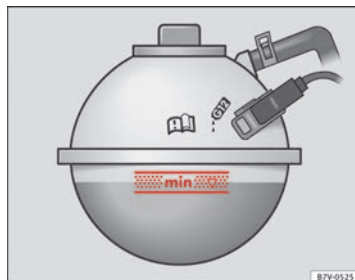

Fig. 173 In the engine compartment: Marking on coolant expansion tank
- When the engine is cold, check the coolant level using the side marking on the expansion tank ⇒ Fig. 173.
- The engine coolant level should be between the marks on the coolant expansion tank ⇒ Fig. 173. **Do not exceed the top level of the marked area** ⇒ .
- Only top up coolant to the top level of the marked area ⇒ Fig. 173. Otherwise the excess coolant will be forced out of the cooling system when the engine is hot, causing damage.